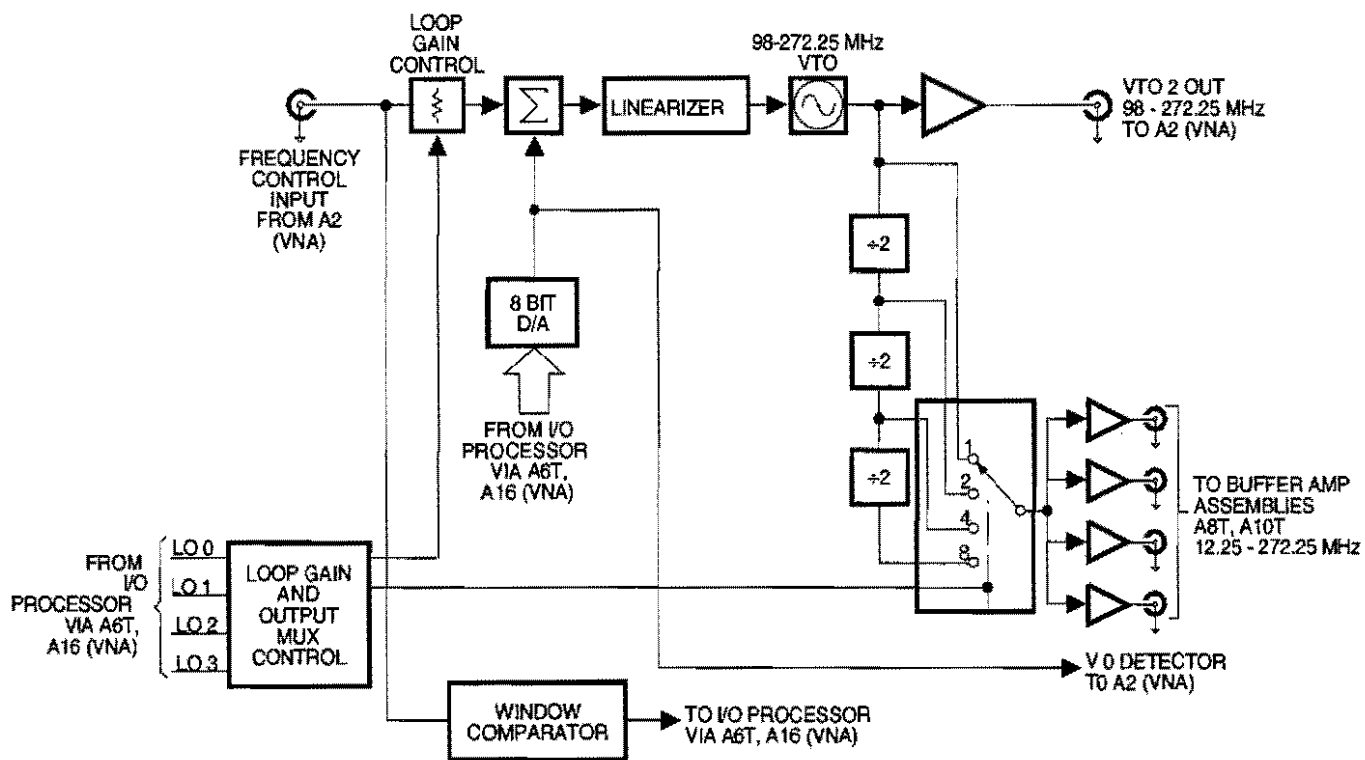

Figure 7-6. A4T LO 2 PCB Block Diagram
The A4T LO 2 PCB (Figure 7-6) provides the second local oscillator (LO) signal to the A8T and A10T Buffer Amplifiers. There it mixes with the first IF signal to produce the second IF of 2.25 MHz. The A4T circuitry consists of a loop gain control circuit, a summation amplifier, an 8-bit digital-to-analog converter (DAC), a linearizer, a voltage-tuned oscillator (VTO), a series of divide-by-2 frequency dividers, a window comparator, a frequency range selection circuit, and several buffer amplifiers.